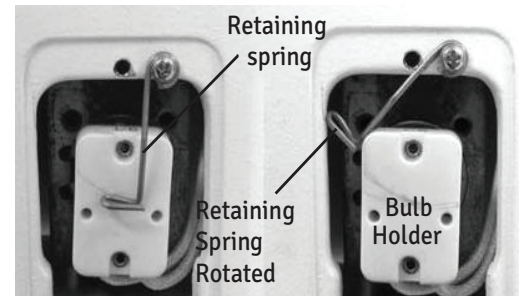

Figure-21 Retaining Spring
3. Swing the retaining spring away from the Bulb. Refer to figure-21.
7. Move the retaining spring back into its original position. Refer figure-21.